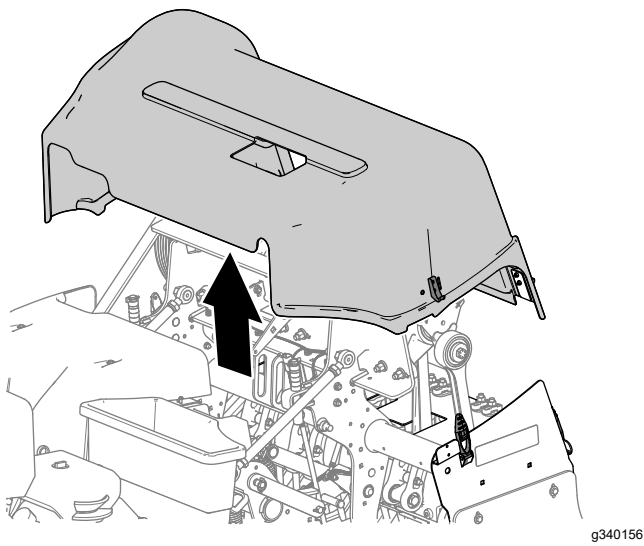

Figure 151
5. Lift the coring-head cover from the machine (Figure 151).